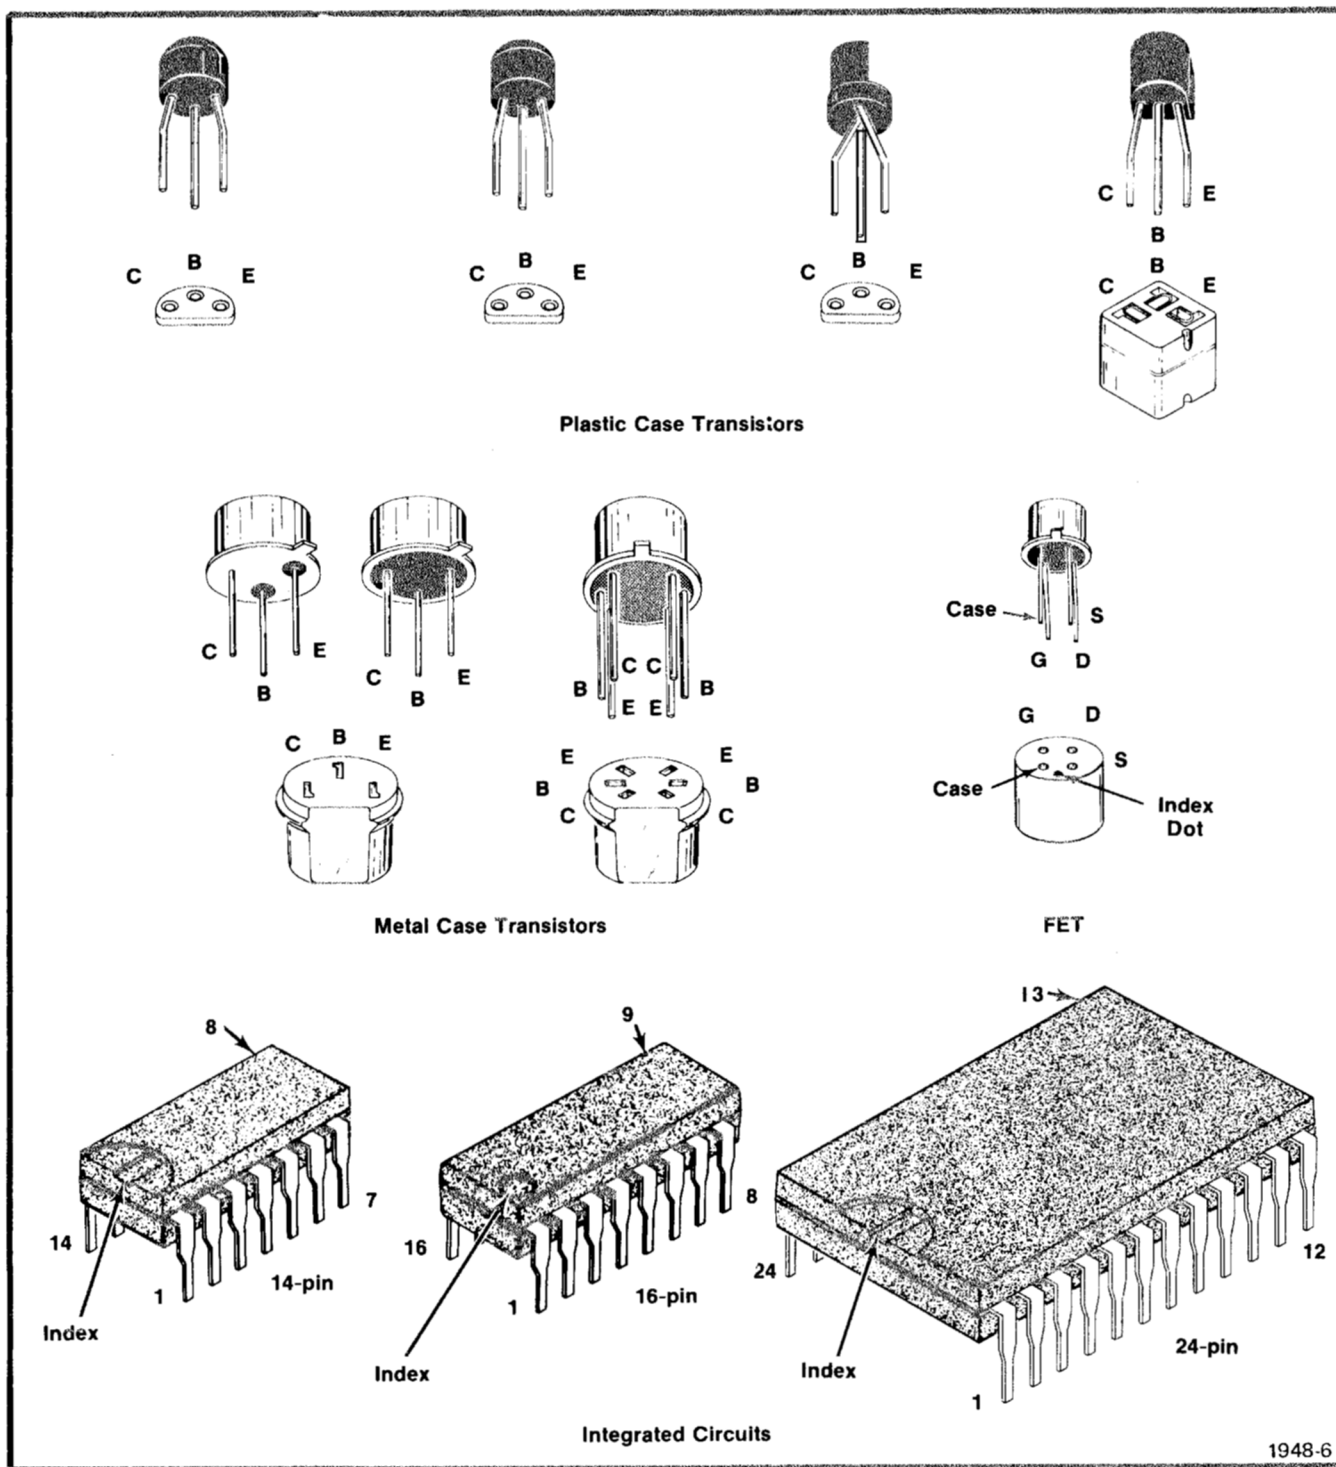

Fig. 4-2. Semiconductor lead configuration.
**Semiconductor Lead Configuration.** Fig. 4-2 shows the lead configuration of the semiconductors used in this instrument. The view is as seen from the bottom of the semiconductor.
Replacement semiconductors should be of the original type of a direct replacement. Fig. 4-2 shows the lead configuration of the semiconductors used in this instrument. If the replacement semiconductor is not of the original type, check the manufacturer's basing diagram for proper basing.